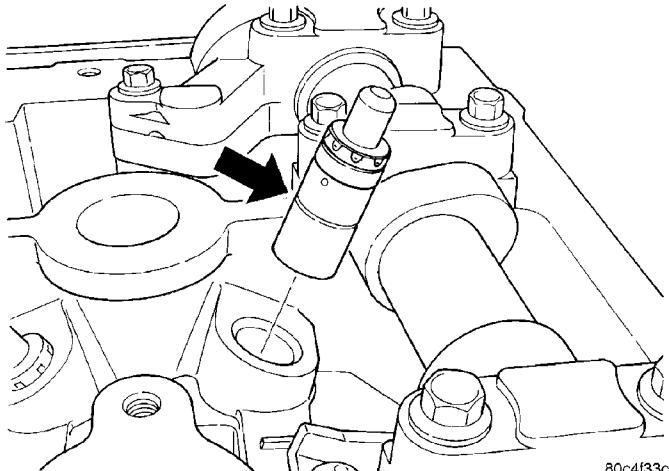

Fig. 37 Hydraulic Lash Adjuster
(1) Remove cylinder head cover. (Refer to 9 - ENGINE/CYLINDER HEAD/CYLINDER HEAD COVER(S) - REMOVAL)
(2) Remove rocker arm. (Refer to 9 - ENGINE/CYLINDER HEAD/ROCKER ARMS - REMOVAL)
(3) Remove hydraulic lash adjuster (Fig. 37).
(4) Repeat removal procedure for each hydraulic lash adjuster.
(5) If reusing, mark each hydraulic lash adjuster for reassembly in original position. Lash adjusters are serviced as an assembly.
(1) Install hydraulic lash adjuster (Fig. 37). Ensure the lash adjusters are at least partially full of engine oil. This is indicated by little or no plunger travel when the lifter is depressed.
(2) Install rocker arm. (Refer to 9 - ENGINE/CYLINDER HEAD/ROCKER ARMS - INSTALLATION)
(3) Repeat installation procedure for each hydraulic lash adjuster.
(4) Install cylinder head cover. (Refer to 9 - ENGINE/CYLINDER HEAD/CYLINDER HEAD COVER(S) - INSTALLATION)